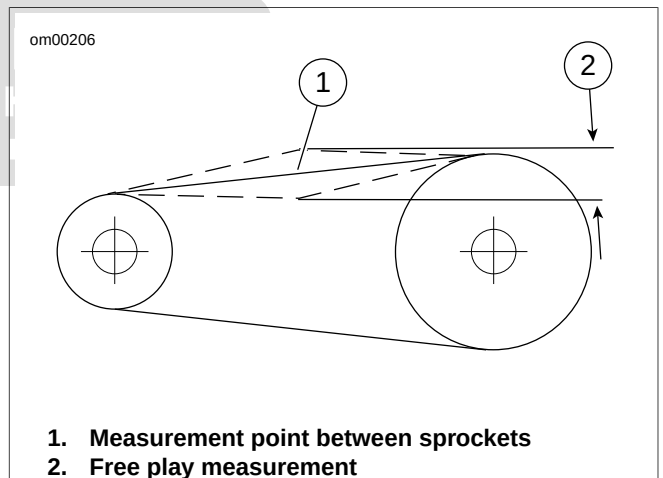

Figure 1-43. Primary Chain Vertical Free Play: Sportster Models
- See Figure 1-43. Refer to Table 1-11. A properly adjusted primary chain should have the specified vertical free play in its upper strand. Be sure the measurement is taken midway between engine and clutch sprockets with sprockets rotated to the tightest chain position.